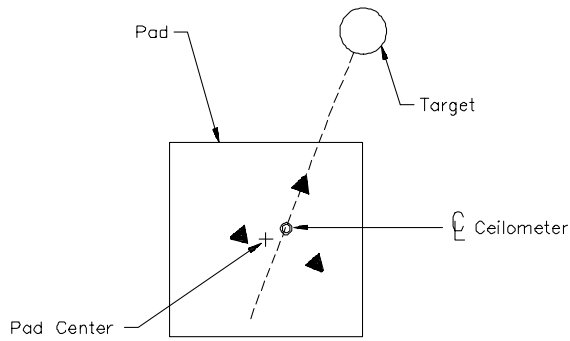

Figure 3.4
- C. Align the unit from its center line through one leg of the ceilometer (refer to Figure 3.4). The alignment should be directly at the center of the hard target.